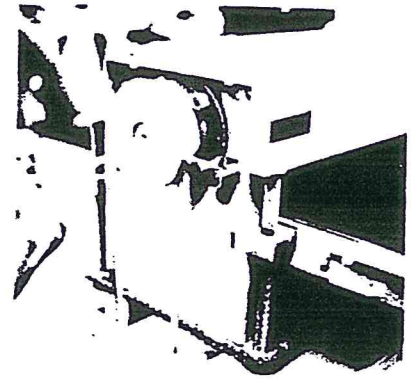

Fig. B-2
2. Oil press roller bronze bushings with 2-4 drops on the side of the bronze bushing where it touches the machine frame, and where the shaft goes through the bushing every 20 hours of operation (see fig. B-2). Oil more often under severe use.